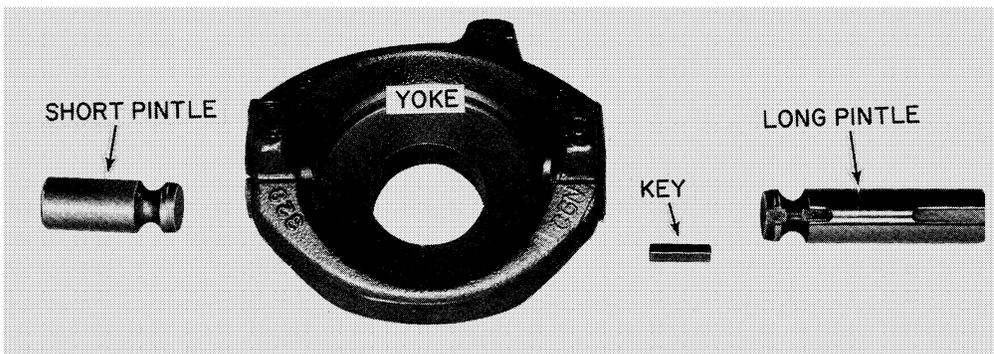

FIGURE 34
24. Figure 34 shows the yoke and pintles in assembly sequence.